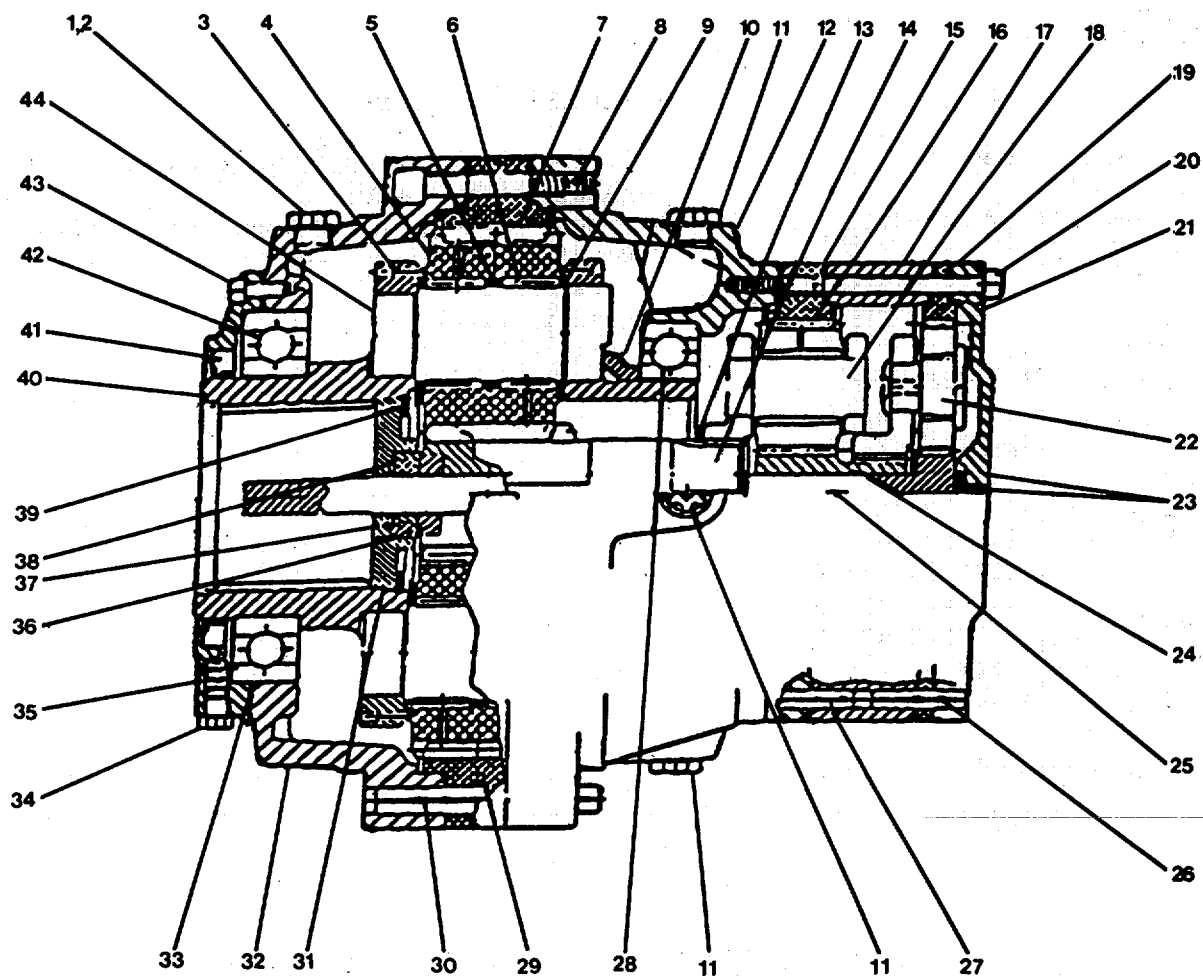

FIGURE 4-9. Gear Reducer Assembly.
4-17. Replace/Repair Gear Reducer. (FIGURE 4-9)
- (1) Prior to removal of gear reducer, set winch on end or block drum to maintain alignment for easy removal.
- (2) Loosen socket head capscrews (1, FIGURE 4-9), remove the headless straight pins (2) and remove socket head capscrews (1).
- (3) Remove socket head capscrews (36) from adapter (40) and remove adapter.
- (4) Remove coupling (38), drum shaft (37), and packing (39) from winch assembly.
- a. Place gear reducer assembly in a position to drain gear oil from housing, place a container under oil fill plugs (1,2,11 and 43, FIGURE 4-9), remove plugs one at a time and drain oil from gear reducer assembly.
- b. Remove socket head capscrews (43), carrier seal (35), preformed packing (33), seal (41), carrier bearing (42) and housing, (32) from gear reducer assembly. Discard packing and seal.
- c. Remove preformed packing (31), carrier bearing (38), bushing (37), retainer ring (39) and bushing (36). Discard packing.
- (1) Remove third stage carrier planet subassembly (40) consisting of plant gear shafts (44), headless straight pins (3), planet gears (4), bearing spacers (5), thrust bearings (9) and planet pin bearings (6).